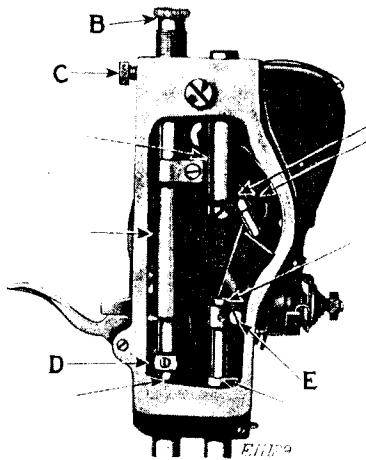

Fig. 3. End View of Machine, Showing Oiling Points Also Adjustments
To set the presser foot at the correct height, remove the face plate, loosen the set screw in the collar (D, Fig. 3) on the presser bar and **raise the collar for thin work** or **lower it for thick work**, until the presser foot makes light contact with the work, as instructed above.
The pressure on the presser foot is regulated by loosening the screw (C, Fig. 3) and turning the thumb screw (B, Fig. 3) down to increase the pressure or up to decrease the pressure. When the desired pressure is obtained, tighten the screw (C).
To Set the Needle Bar in Correct Time. Loosen the needle bar connecting stud pinch screw (E, Fig. 3) and place the needle bar in the proper position as directed above, then retighten the screw.